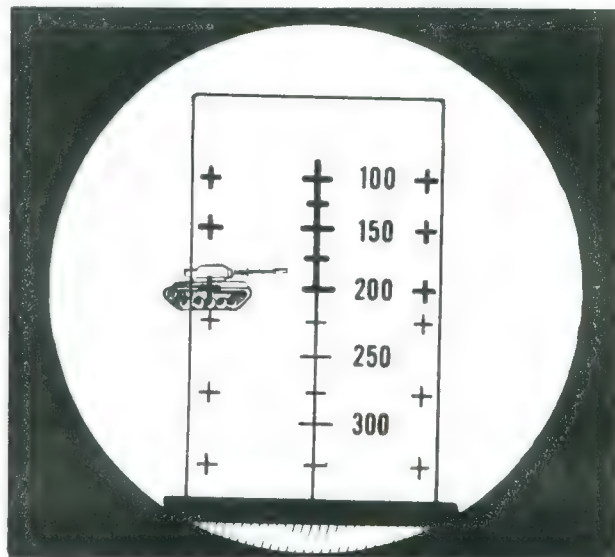
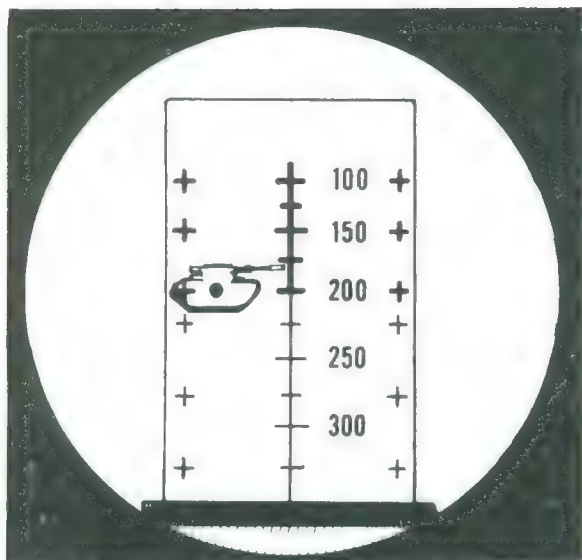

Figure 16. Target moving left to right, 15 miles per hour at 200 meters.
Figure 17. Target moving left to right, 10 miles per hour at 200 meters.
- (3) *Targets moving directly across the gunner's front.* With a target moving perpendicular to the gunner's line of sight, the gunner must estimate the range to the target and the speed the target is moving. The sight reticle should be placed on the target so that the vertical range line is always in front of the target's direction of travel. The estimated lead and estimated range are applied to the target's center of mass (fig. 16). The lead marks on the M72 sight reticle indicate 15 miles per hour of speed. If the gunner estimates the target's speed as something less than 15 miles per hour he must approximate the amount of lead necessary to engage the target by visualizing a point on the reticle (fig. 17).